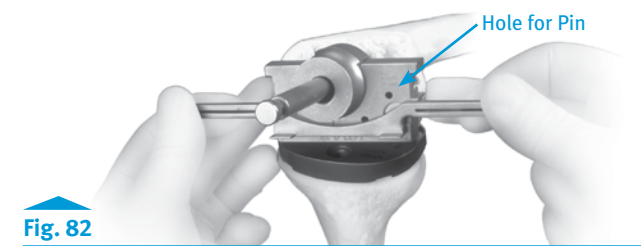

Fig. 82
- If the Femoral Stem Base/Cutting Block is in proper alignment and rotation, insert two Headless Holding Pins into the upper two holes (Fig. 82). Then proceed to “Step 6: Finish Femur.”
- Confirm appropriate external rotation, and insert two Headless Holding Pins in the upper two holes of the block (Fig. 82).